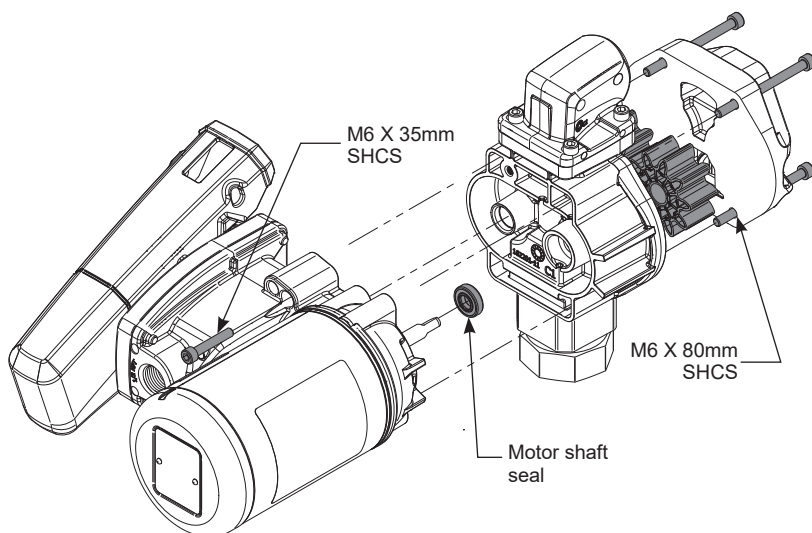

Figure 4
2. Using a 5mm Hex wrench, remove the (4) M6 x 80mm SHCS on gear coverplate and (1) M6 x 35mm SHCS located on back of pump housing. Separate pump housing and fittings from drive shaft (see Figure 4).
3. Remove motor shaft seal from pump housing (see Figure 4).